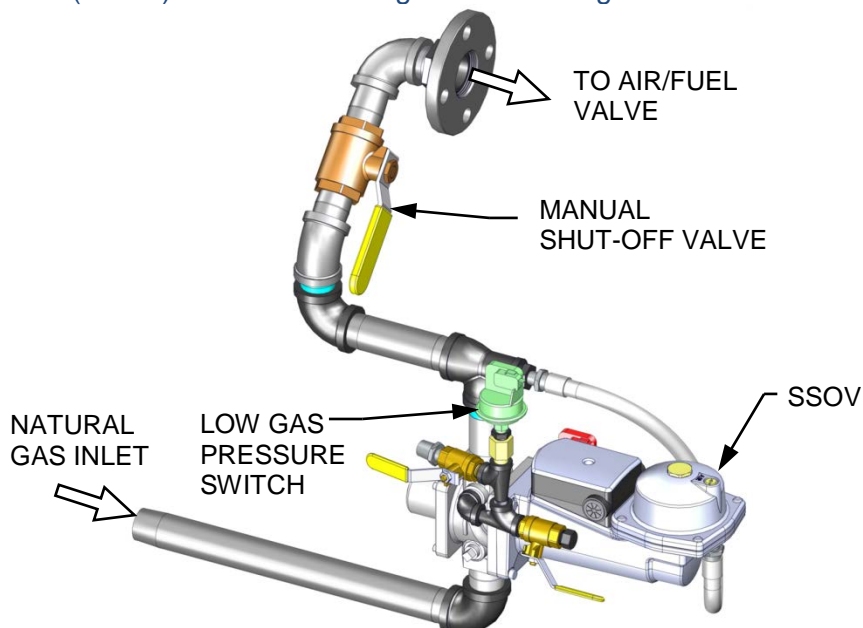

Figure 3-1a: BMK 750 & 1000 SSOV Location
2. The unit checks to ensure that the Proof of Closure (POC) switch in the downstream Safety Shut-Off Valve (SSOV) is closed. See Figure 3-1a through 3-1d for SSOV location.